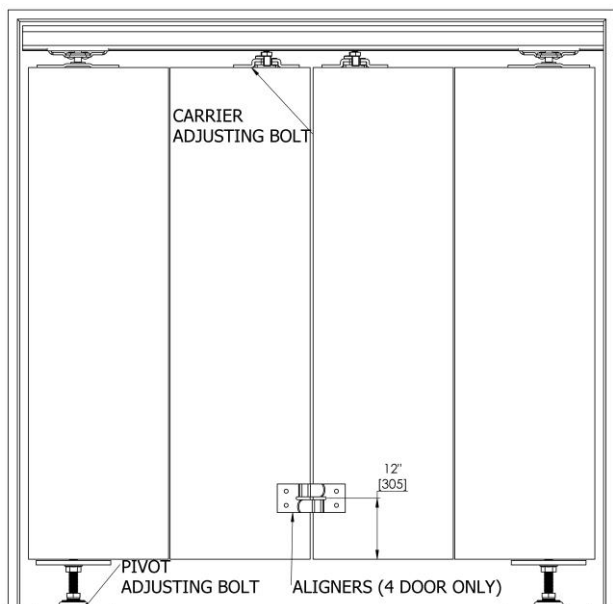

Fig 20
- Tighten the bottom pivot adjusting nut to adjust the height (Fig 20)
- Tighten each door pair's bottom pivot adjusting nut to adjust the height (Fig 20)
- Install the aligners behind the doors where the two door pairs meet, 12" from the bottom door edge with (#8x3/4") screws (Fig 20)